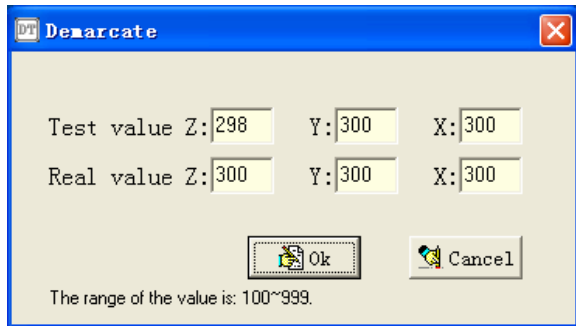

Figure 3.13
- H. Move mouse pointer to the “Demarcate menu” in the headline of the main menu, left-click the mouse and select “Download demarcate data” will open pop-up dialog box, shown as Figure 3.13.